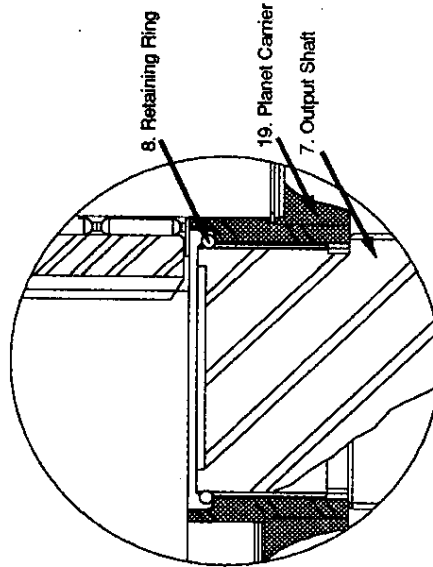
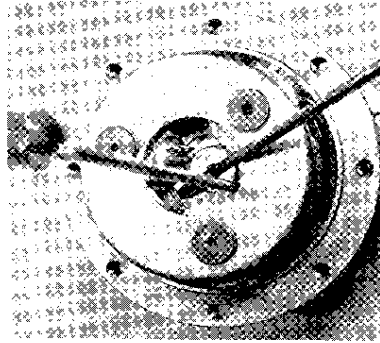

Fig. 2
Fig. 3
14. Remove sungear (31) from planet gears (40).
15. Remove retaining ring (8) from groove in shaft (7). (Fig. 2 & 3)
Note: (8) is a wirelock retaining ring that retains the planet carrier assembly (19) on the output shaft (7). This locking ring must be pried out of the locking ring groove to remove the planet carrier assembly (19). This typically is accomplished by inserting two long screwdrivers between the planet gears and carefully working the wirelock out of the locking groove. (Fig. 2 & 3)
16. Lift planet carrier assembly (19) from shaft (7).
17. Bend tab on lock washer (17) away from lock nut (18).
19. Lubricate spline end of shaft (7), lay retaining ring (8) on end of shaft. (Fig. 2) Slide planet carrier assembly spline onto shaft spline. [Model 50D—Slide large planet carrier assembly] Reach through the planet carrier and seat retaining ring (8) into groove at end of shaft (7). (Fig. 3) This is best accomplished using two long screwdrivers. (Fig. 3)